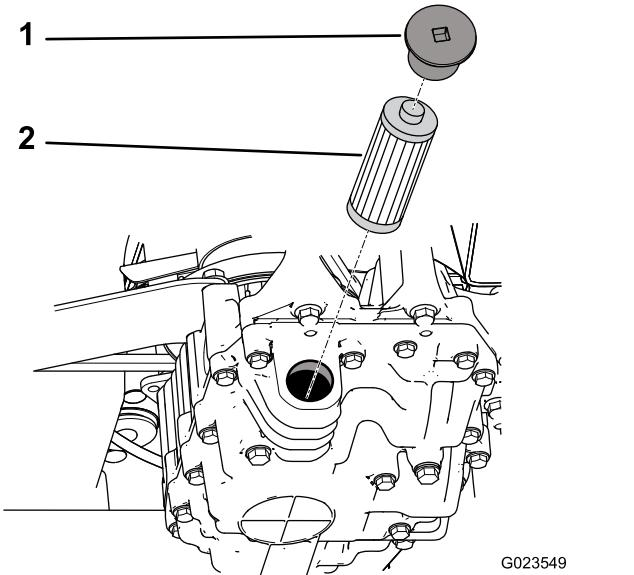

Figure 70
- Remove the filter cap, and pull the filter out of the transmission (Figure 70).